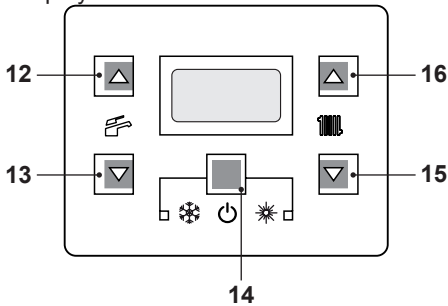

Fig. 7.11
- Press the 14 key for 2 seconds until both  and  symbols appear on the display Fig. 7.11.
- Switch off the boiler by pressing the 14 (Fig. 7.11) key for 2 seconds until the  symbol appears on the LCD display (Fig. 7.10).
Press the reset key on the boiler control panel 14 (Fig. 7.11) to reset its functioning.